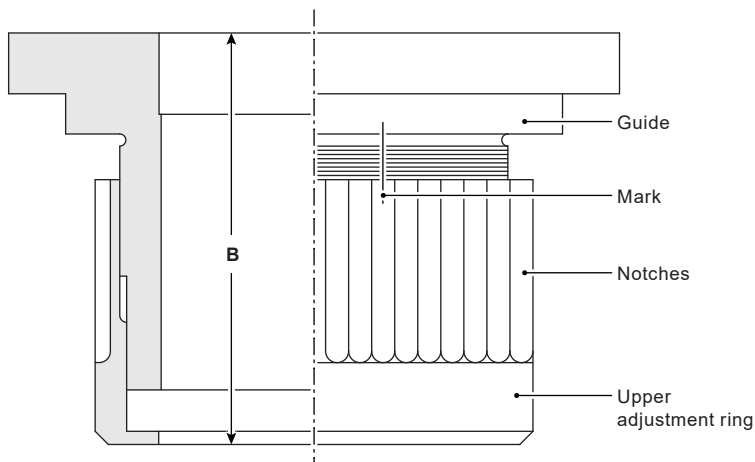

Fig. 4
- 9.1.7** Remove the upper locking screw (4). Remove the stem assembly (19), guide (17), upper adjusting ring (08), disc holder (12) and disc (4), pulling the stem upwards and taking care not to alter the positioning of the ring. Protect the sealing surface of the disc. Mark the position of the notches on the upper ring in relation to the guide and on the ring. Make a note of dimension B as shown in Figure 4. This will help to position the upper adjusting ring exactly in the position it was in before disassembly.